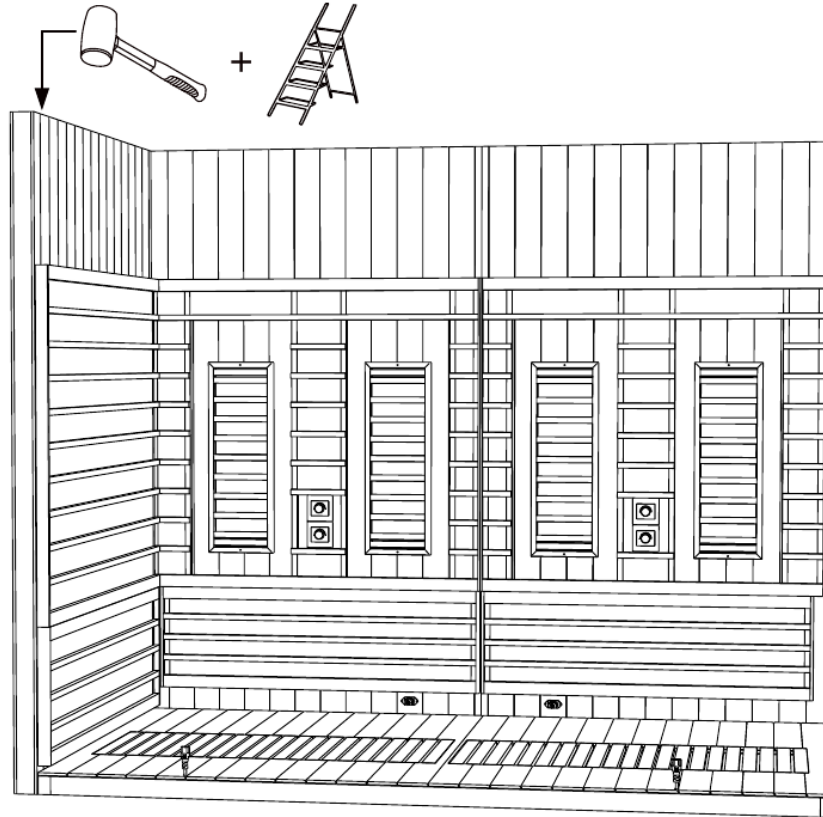

Figure 8. Left Panel (A) buckled to the Back Panel (B) and tapped down with the rubber mallet from the ladder.
- Position the Left Panel (A) against the left edge of the Back Panel, left as you face the front of the sauna. Connect the three concealed buckles on the Left Panel to the three concealed buckles on the Back Panel (**Figure 8** and **Figure 7**).